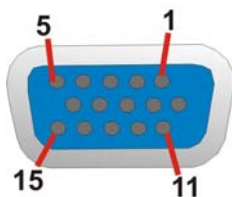

Figure 3-18: VGA Connector
- CN Pinouts:** See **Figure 3-18** and **Table 3-8**